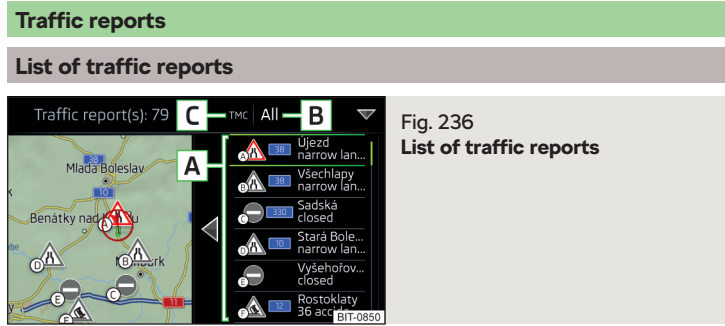

Fig. 236
In the list of traffic messages and the map, a max. of 6 messages are displayed, that are provided with a letter and a traffic obstruction symbol (e.g. , , ) **A** » Fig. 236.
On the position **C** » Fig. 236 can the following symbols are displayed.
- ▶ **Route guidance is taking place** - After tapping function surface **B** » Fig. 236 in the displayed menu, you can select all traffic messages by tapping the function surface **All areas**, or you can select only the traffic messages present on the route by tapping the function surface **Route**.